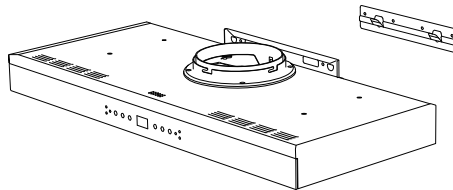

Fig 6
- As shown in Figure 6, lift the whole machine up and snap in the hanging hole on the back of the range hood into the hook bracket of the hanging plate.